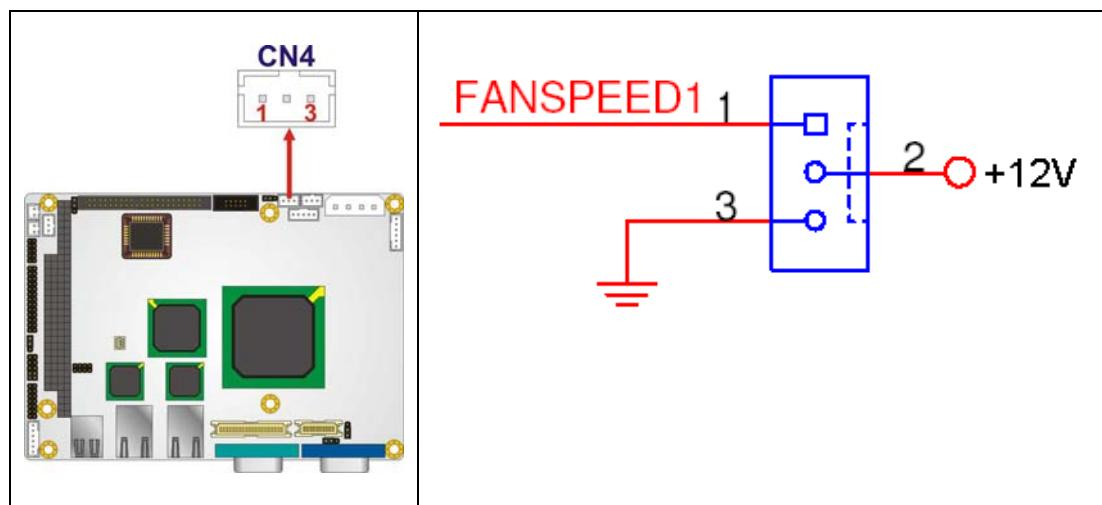

Figure 4-10: +5V Fan Connector Location
4.2.8 Fan Connector (+12V, 3-pin)**CN Label:** CN4**CN Type:** 3-pin wafer**CN Location:** See **Figure 4-10****CN Pinouts:** See **Table 4-10**